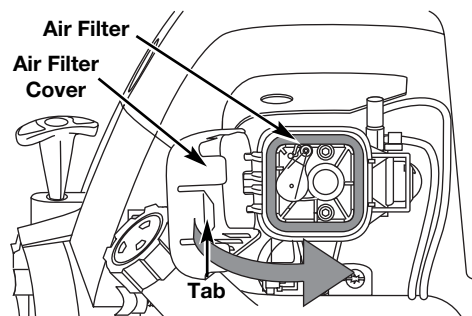

Fig. 32
8. Swing the cover to the right until the tab on the air filter cover snaps into place in the slot on the back plate (Fig. 32).